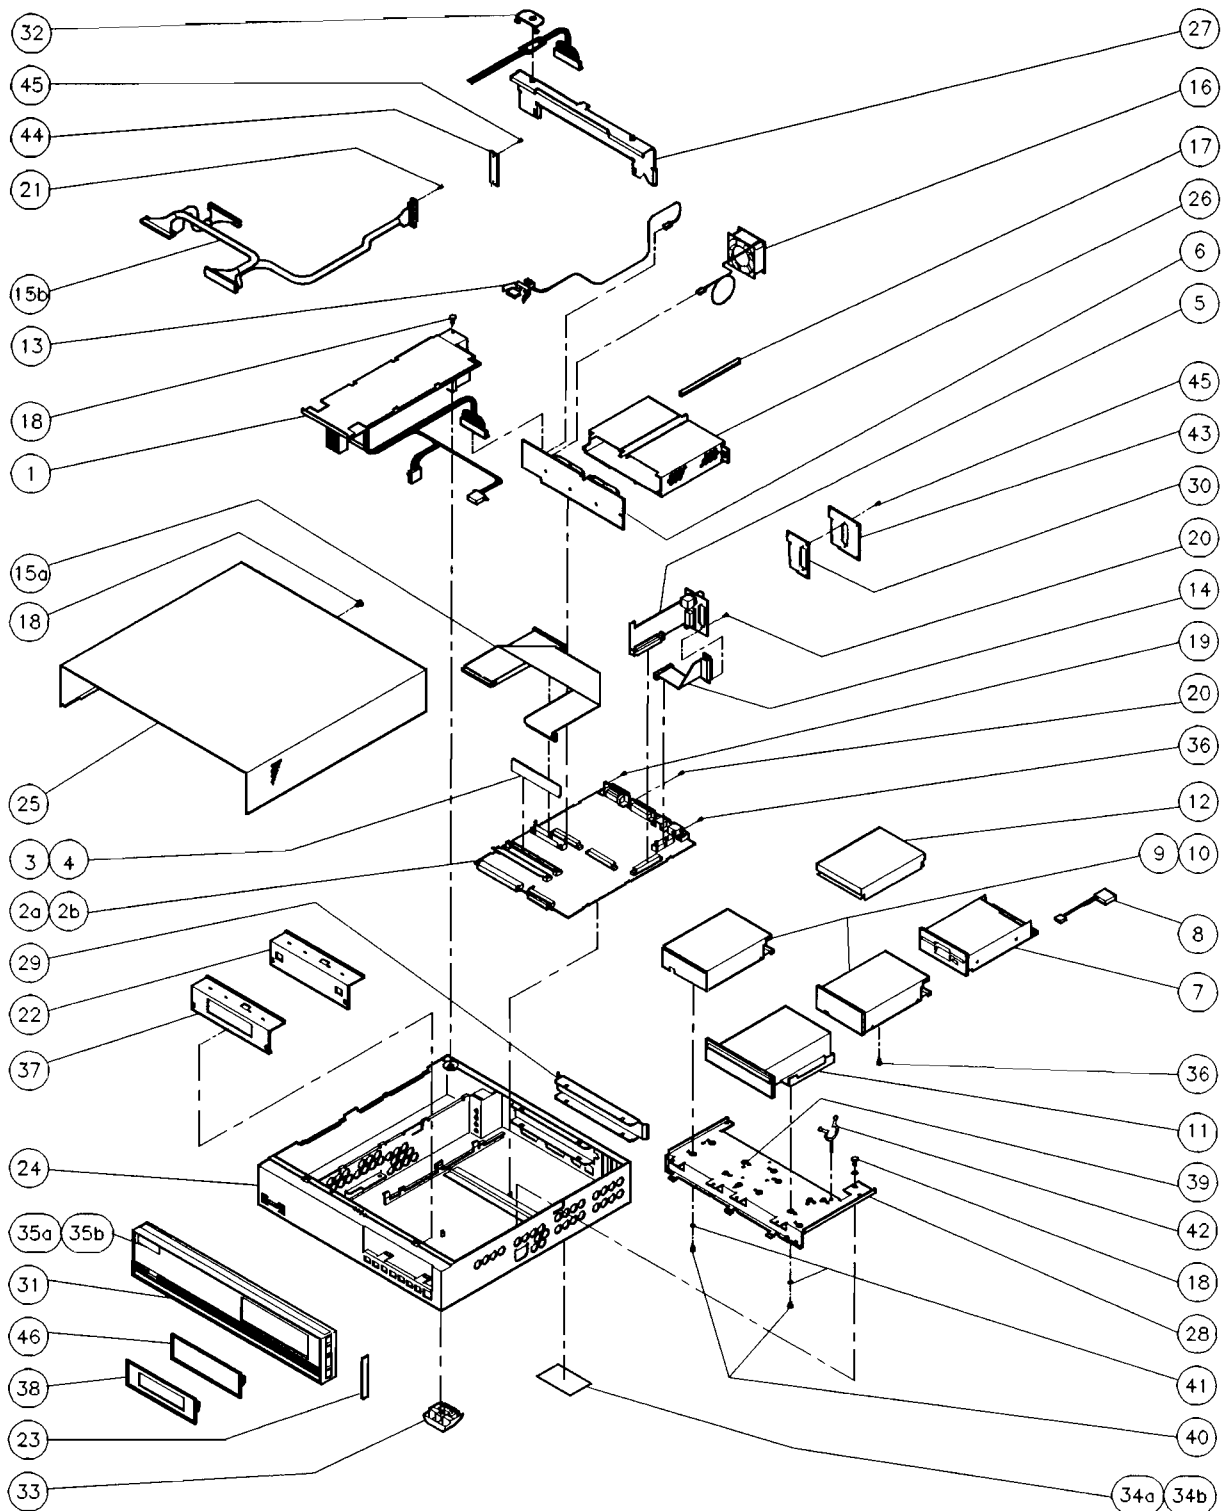

Figure 2-2. Model 362 Controller and Model 382 Controller Exploded View
- Exploded view shown in Figure 2-2.